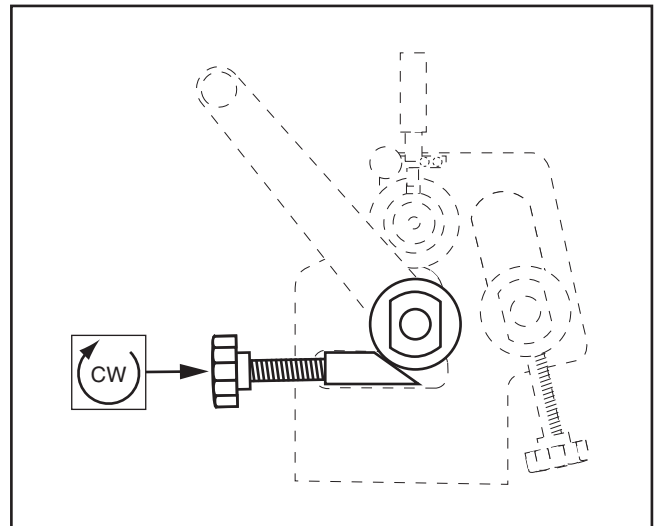

Figure 13. Raising lower roller $\frac{1}{4}$ turn.
4. Remove workpiece from between rollers, then raise lower roller slightly by rotating thickness adjustment knobs approximately $\frac{1}{4}$ turn (see **Figure 13**).